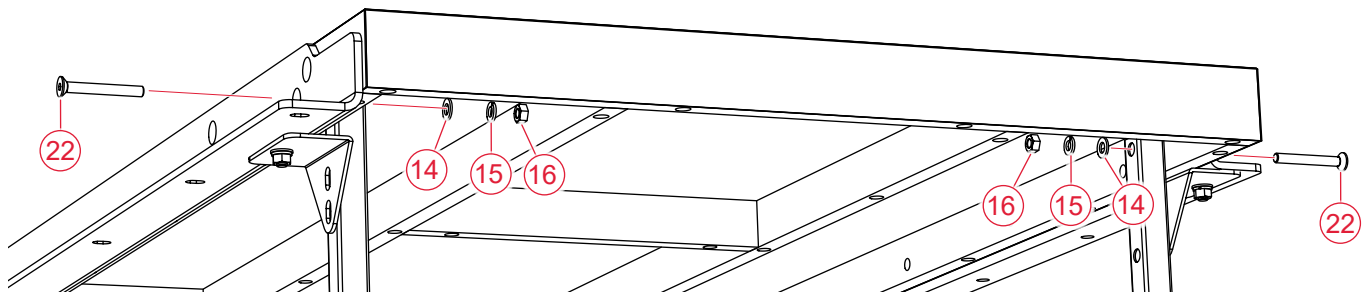

Fig. 15
The support legs attach to the outer ends of the rails and extension table with M8 x 65 countersunk socket head bolts (22). Align the top hole in one support leg with the second-outermost hole in the front rail, and the top hole in the second support leg with the outermost hole in the rear rail. Make sure the legs are positioned against the inside of the extension table. Insert M8 x 65 bolts (22) through the holes in each of the rails, extension table and each leg. Place an M8 washer (14) and an M8 lock washer (15) on the threaded end of each bolt and then thread an M8 hex nut (16) onto each bolt (Fig. 15). Hand-tighten the nuts; do not fully tighten them.